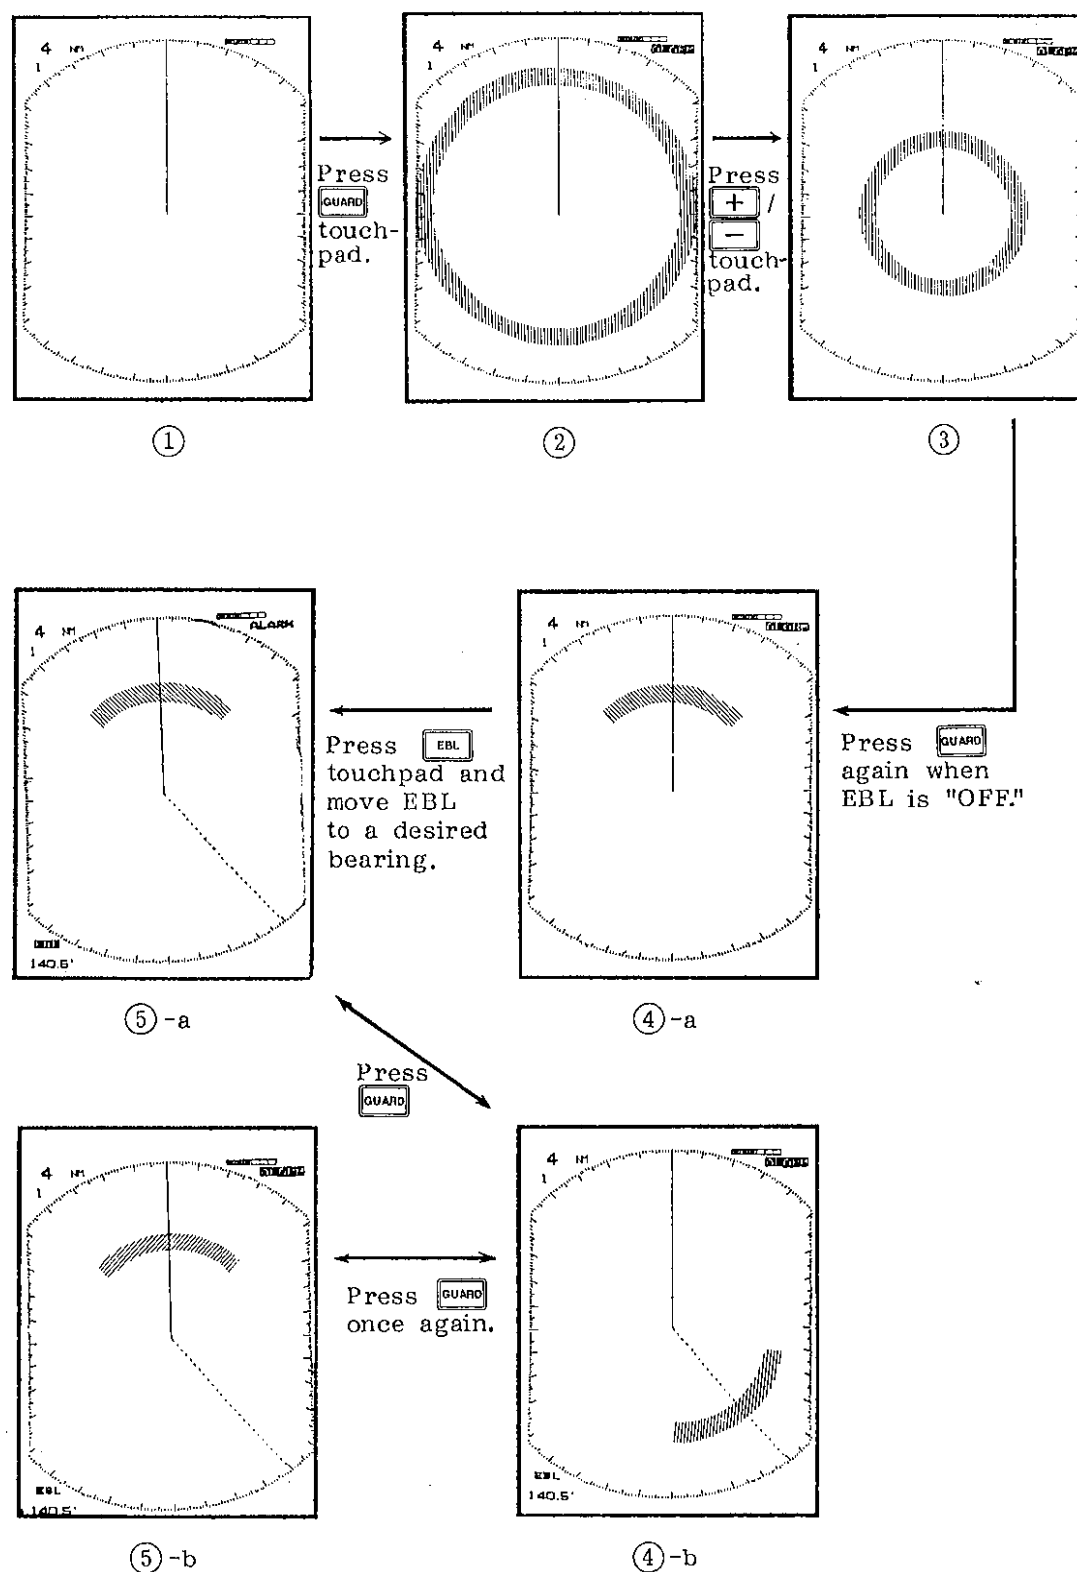

Fig.2-9 Setting the Alarm
1. Press the **GUARD** touchpad once. The indicator "ALARM" (framed with a white light) appears on the upper right-hand side of the screen and a 360° doughnut-shaped guard ring is displayed (Fig.2-9②). Table 2-2 shows the initial guard area to be displayed.
2. The distance to the guard zone may be changed by the **+/-** touchpad. See Fig.2-9③. If you want to set a 90° sector alarm, 45° on either side of the heading mark or the EBL, proceed to step 3.
3. Press the **GUARD** touchpad again and the guard zone changes to a 90° fan-shaped sector, bisected by the heading mark. See Fig.2-9④-a.
4. If you want to change the guard zone location, press the **EBL** touchpad followed by **+/-** touchpads to set the EBL on the bearing desired for the center of the guard zone. See Fig.2-9⑤-a.
5. Press the **GUARD** touchpad and the guard zone drawn up in step 4 is brought up on the screen (Fig.2-9④-b).